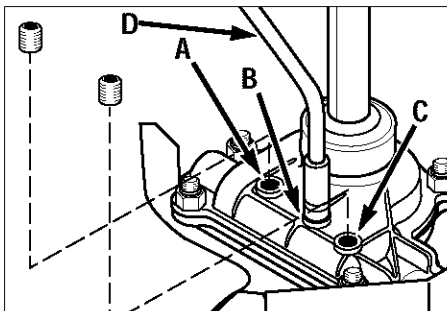

Figure 14: Transmission lubricant check and fill locations.
5. Remove the three threaded plugs (A, B and C, Figure 14) from the transmission. Lubricant should be visible in the top two holes (B and C). If so, replace all three
1. Place the nozzle of a standard grease gun (D, Figure 14) firmly against the rim of the middle hole (B) and add grease until it begins to seep from the bottom hole (A). Reinstall the plug in the bottom hole (A). Next apply grease to the top fill hole (C) until it begins to seep from the middle hole (B). Reinstall the plugs in the middle (B) and top (C) holes.